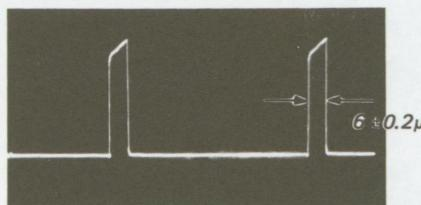

Fig. 5-102.
4. Adjust RV 2 for a pulse width of $6 \pm 0.2 \mu\text{s}$. (See Fig. 5-102.)